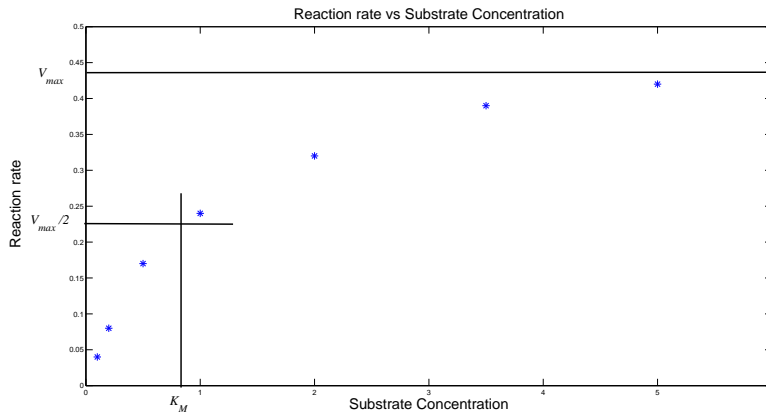

Figure 1.1 Graphical estimation of V_{max} and K_M
- 1.3** The plot indicates that the relationship between the reaction rate and the substrate concentration goes to saturation in a M-M-like behavior, see Fig.1.1. V_{max} and K_m are estimated as shown in the plot.